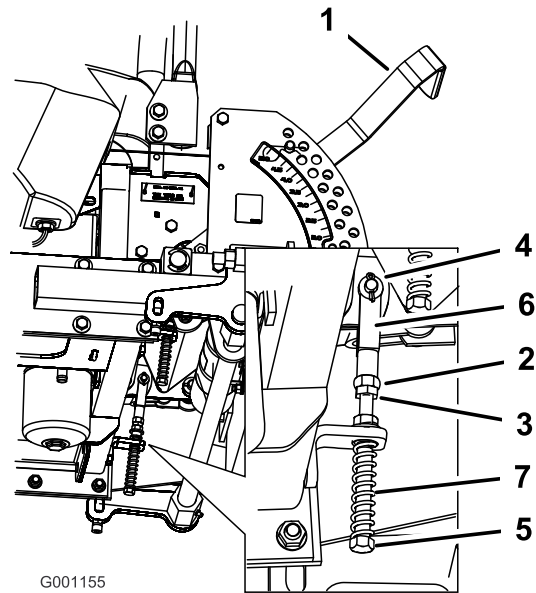

Figure 68
10. Tighten the nut and jam nut (Figure 68).
8. If adjustment is needed, loosen the nut and jam nut against the yoke (Figure 68).
9. Apply slight rearward pressure on the motion control lever, turn the head of the adjustment bolt in the appropriate direction until the control lever is centered in the neutral lock position (Figure 68).